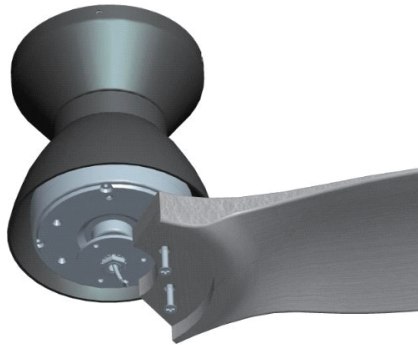

Fig 7.1
7.1 Locate 6 blade attachment screws and washers in the hardware pack. Make sure each blade matches the corresponding place of the motor hub and tighten with the screws and washer as shown in Fig 7.1.